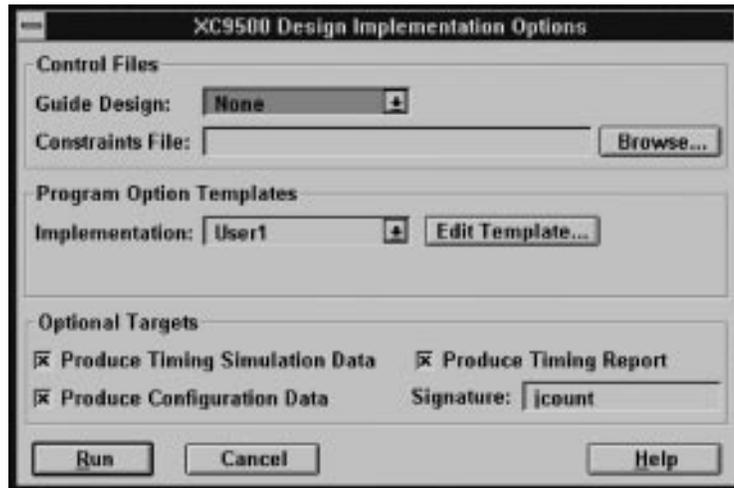

Figure 3-5 Design Implementation Dialog Window
3. Select Implement from the Design menu, which brings up the Design Implementation Dialog Window, as shown in Figure 3-5.